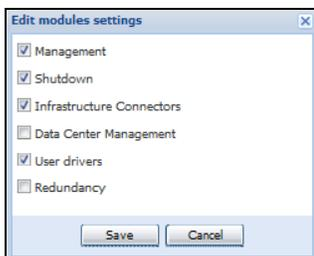
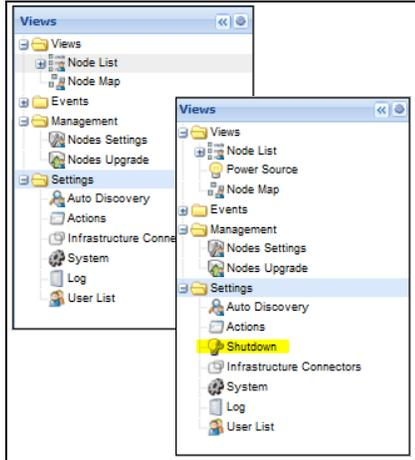

Figure 5. Edit Modules Settings Dialog
Figure 6. Shutdown Displays in the Settings Menu Hierarchy
2. Select the Shutdown checkbox on the Edit modules settings dialog (see Figure 5). The Shutdown menu selection displays in the Settings menu hierarchy list (see Figure 6).